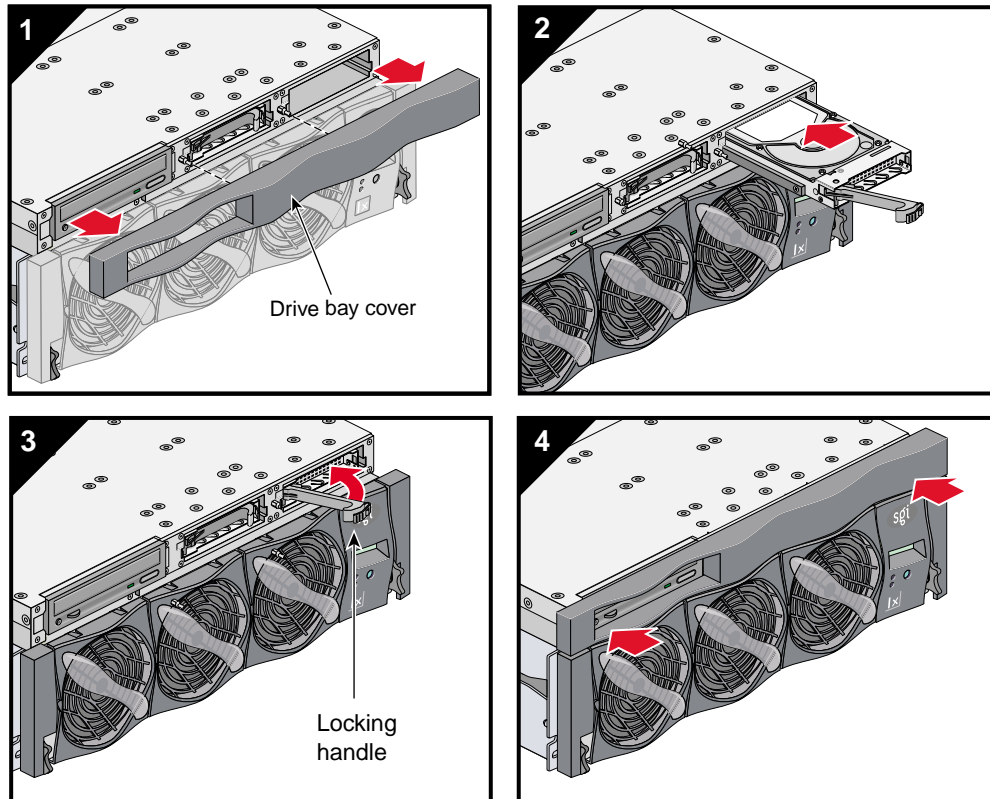

Figure 12-11 Installing a Disk Drive
To install a disk drive, see Figure 12-11 and follow these steps:
1. Remove the drive bay cover to access the two disk drive bays (see panel 1 in Figure 12-11).